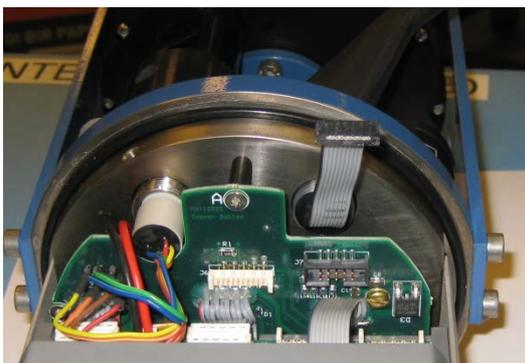

Figure 7-16 Connecting the 4784 Cable
5. Connect plug to socket on Hub-card, see **Figure7-16**.